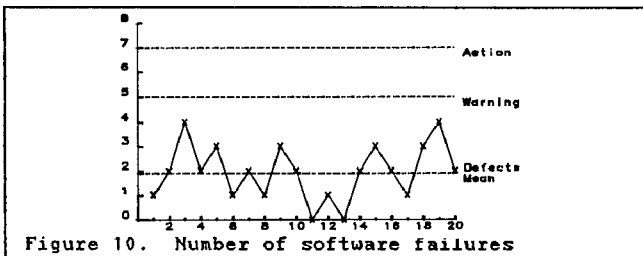

Figure 10. Number of software failures
**C CHART** Charts that are used to monitor a count of defects where the count is much smaller than a possibly unknown population size. (Figure 10)